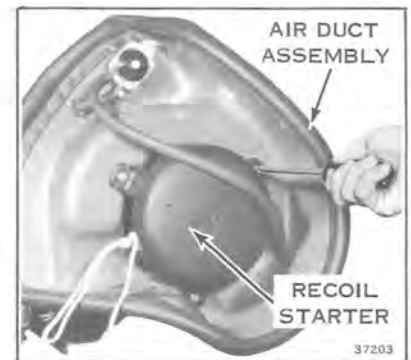

Figure 9-4
8. Disconnect speedometer cable and wires, tachometer, ignition switch connector, and throttle and choke cables and primer hose from the carburetor. Remove starter handle ease rope thru dash and tie knot in rope. See Figure 9-4.
4. Remove 3 bolts and 2 washers and remove the recoil starter and air duct assembly. See Figure 9-4.